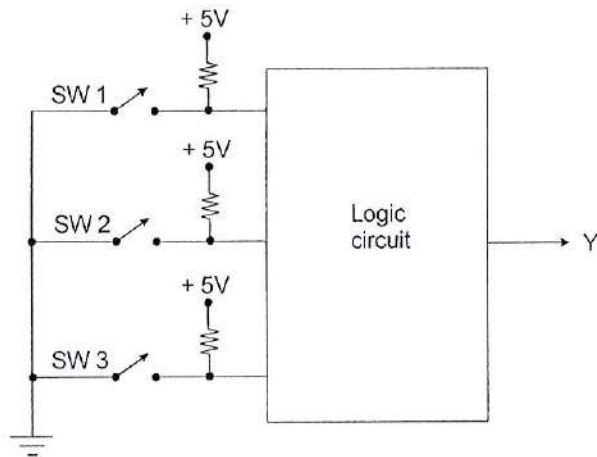

Figure Q2(c) / Rajah Q2(c)
- (c) Figure Q2(c) shows three switches that are part of control circuitry in a photostat machine. The switches are at various points along the path of the copy paper as the paper passes through the machine. Each switch is normally open, and as the paper passes over a switch, the switch closes. It is impossible for SW 1 and SW 3 to be closed at the same time. An output, Y will be HIGH/Logic 1 whenever two or more switches are closed at the same time. Note: switch closed logic 0 and opened logic 1. SW 1 = A, SW 2 = B and SW 3 = C.